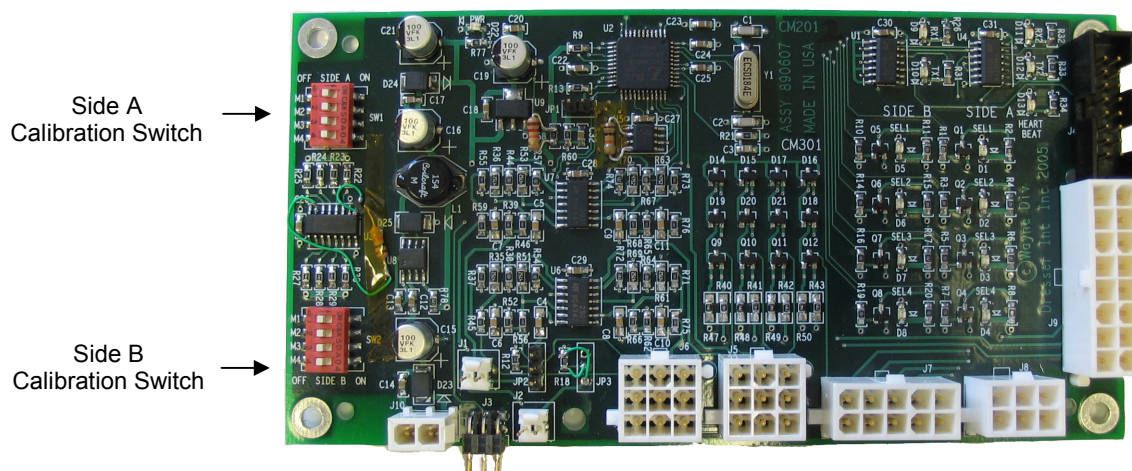

FIGURE 1 PULSE PROCESSING MODULE
- Step 3** Identify the calibration switch for the meter in need of calibration. The Pulse Processing Module (PPM) is located in the electronics area of the dispenser. It is mounted on a bracket directly above the vapor barrier. The switches are located behind a bracket used to seal the switches. Reference Figure 1 for the location of the calibration switches.